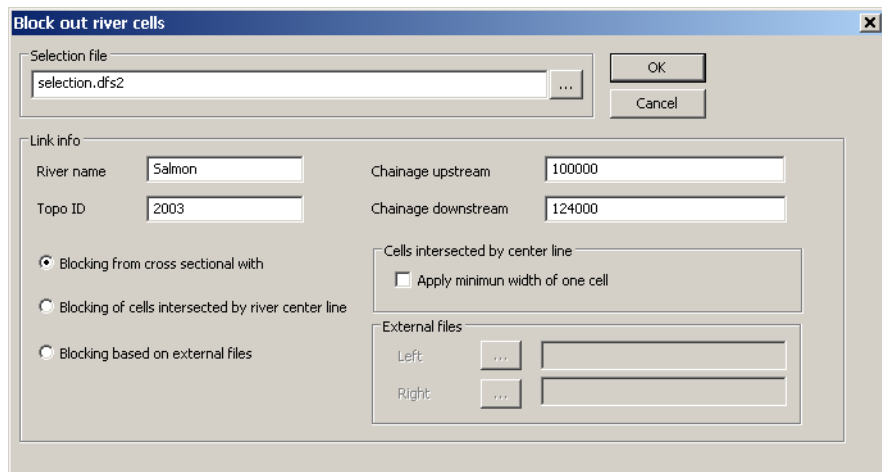

Figure 3.40 The dialog box for selecting which cells to block out in the MIKE 21 bathymetry
The MIKE FLOOD interface can (based on the cross sectional widths or external files) identify and select all the 2D grid cells obtained as a function of the defined blockage option, and the selection is exported to a so-called selection-file. This selection-file may then subsequently be used in the grid editor to ease the selection and editing of cells to be blocked within the main river bed. To access the selection tool for blocking out cells simply right click in the graphical view and select the 'Block out river cells' menu item. The dialog that appears is presented in Figure 3.40.
2. In the dialog that appears select the river reach that the blockage is to be applied to. Please ensure that the river name is typed correctly and that the correct topo-ID is also supplied. If chainages are given which are beyond the river reach the values are modified to coincide with the reach ends. Also supply the name to be used for the selection file including the .dfs2 extension (see Figure 3.40).